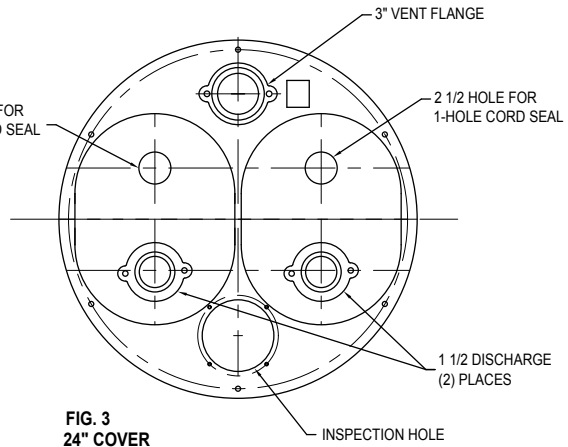

FIG. 3
- NOTE:** Cover must be oriented per instructions (Fig. 3). Basin must be in accordance with applicable codes and specifications. Pump must be level and float mechanisms clear of sides of basin before starting pump. Basin must be clean and free of debris after installation.